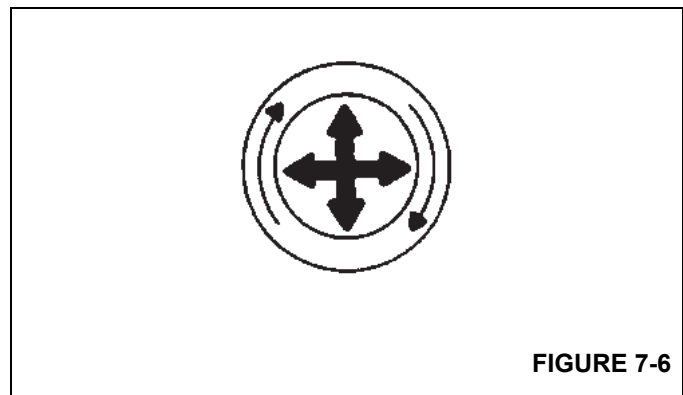

FIGURE 7-6
1. Unlatch the latches, open the air cleaner body and withdraw the element as follows (Figure 7-6):